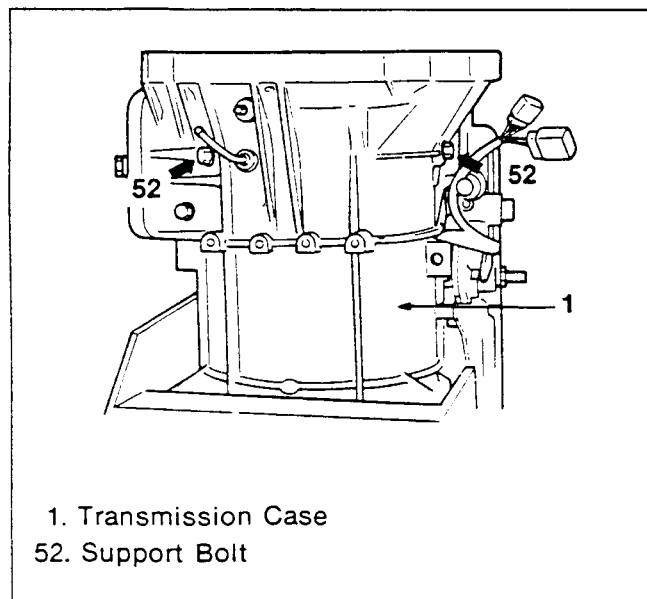

Figure 18. Drum Support Bolt Removal
Drum Support (Figures 18, 19, 20, 21 and 22)
1. Remove bolts (2 pcs) from the drum support (figure 18).